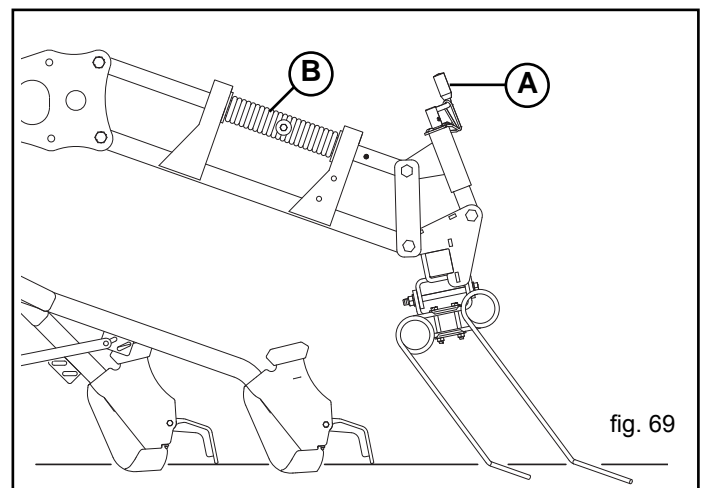

fig. 69
The normal working position of the harrow is shown in Figure 69. In this position, the wear on the teeth, between the long and the short one is even and uniform. By adjusting the regulating handle (A), it is possible to change the angle of the harrow.
The working pressure of the spring-loaded teeth can be varied by rotating the spring (B) located on the upper parallel arm (Fig. 69).